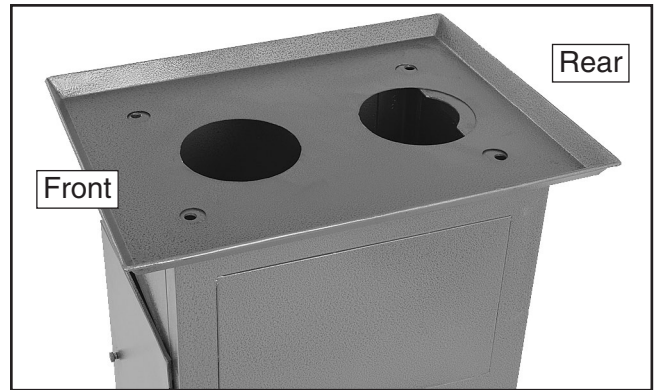

Figure 8. Splash tray placed on the stand in the correct orientation.
2. Place the splash tray on top of the stand, as shown in **Figure 8**, and align the mounting holes.
Note: Take care to install the splash tray in the same orientation as shown in **Figure 8**. Installing the splash tray backwards will limit column movement.